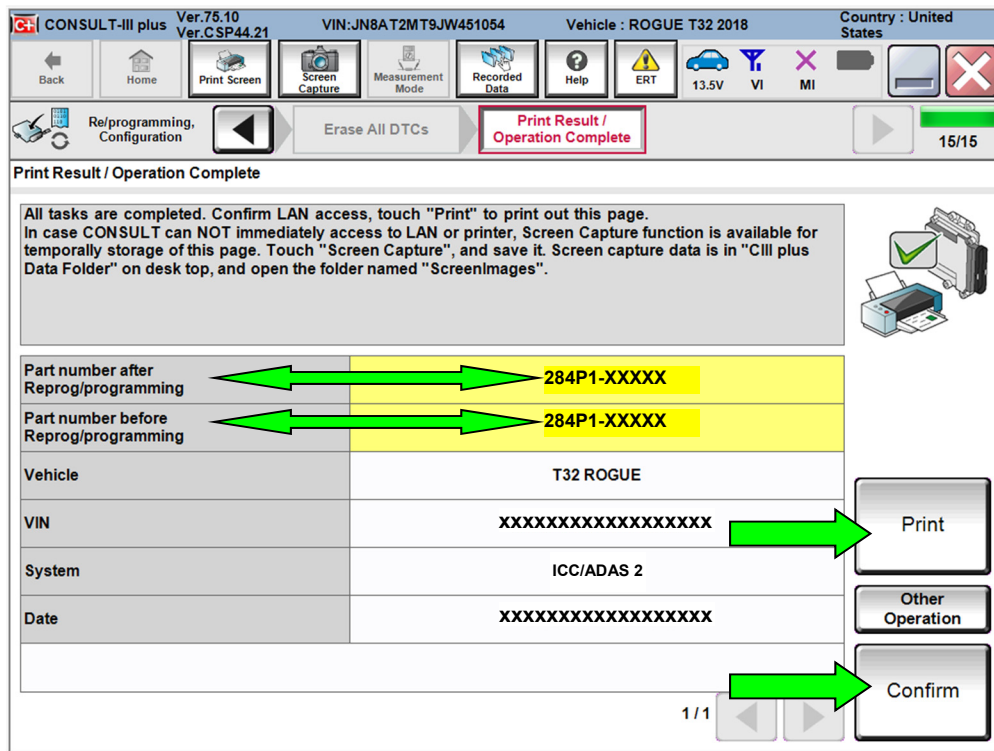

Figure 16
26. When the entire reprogramming process is complete, the screen in Figure 16 will display.
28. Print a copy of this screen (Figure 16) and attach it to the repair order for warranty documentation.